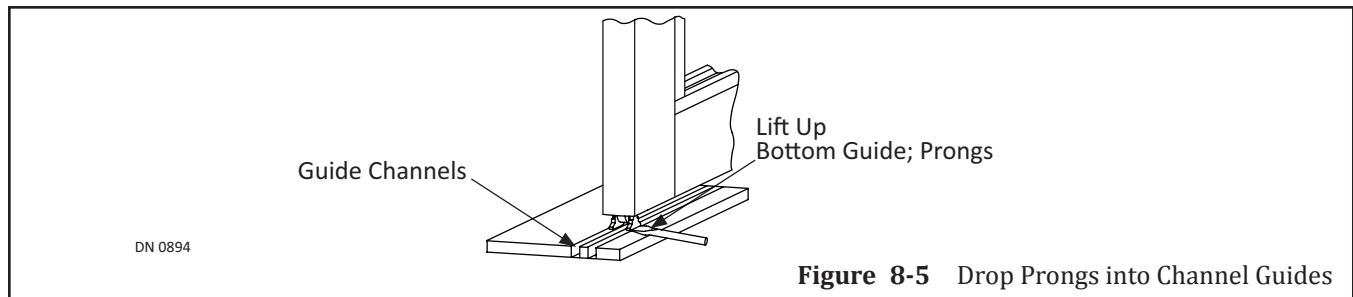

Figure 8-5 Drop Prongs into Channel Guides
3. Allow the Prongs to drop down into the Guide Channels. Please see Figure 8-5.